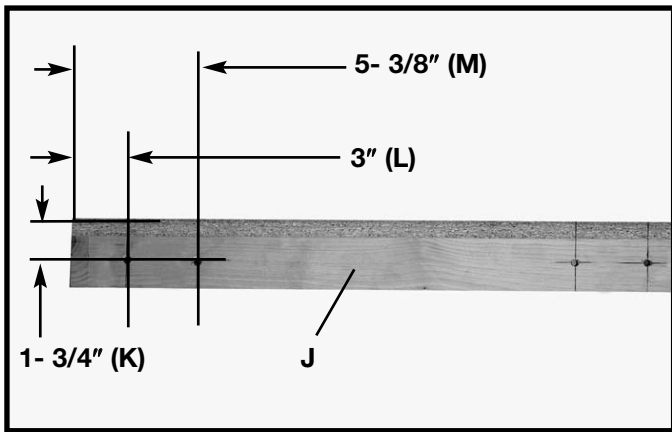

Fig. 82
7. Mark the position of the four leg mounting holes from each end of the table (Fig. 82). Use a 1/4" drill bit to drill four through holes through the end piece (J) of the table at the dimensions shown at (K) (L) and (M).